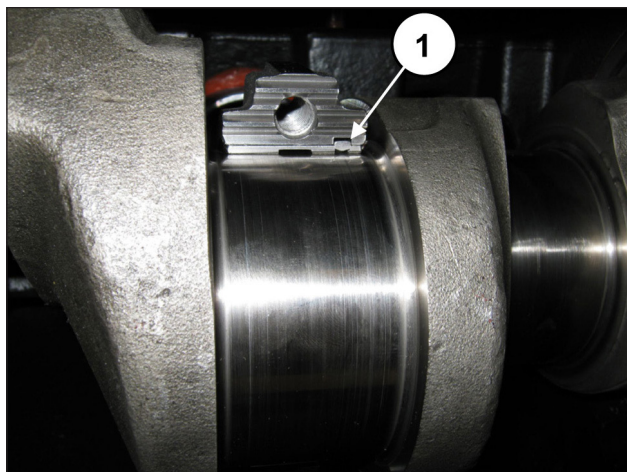

Fig. 66
For proper assembly of the half-bearings, ensure that the reference tab on the half-bearings are positioned in their housing on the half-conrod (pos. ①, Fig. 66).